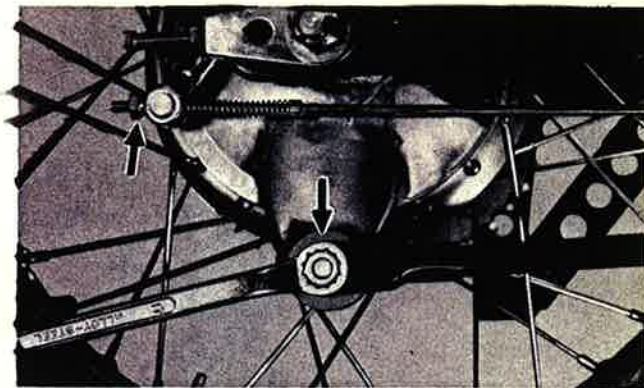

Fig. 5-2-1
1. Remove the tension bar and brake rod from rear shoe plate. (Fig. 5-2-1)